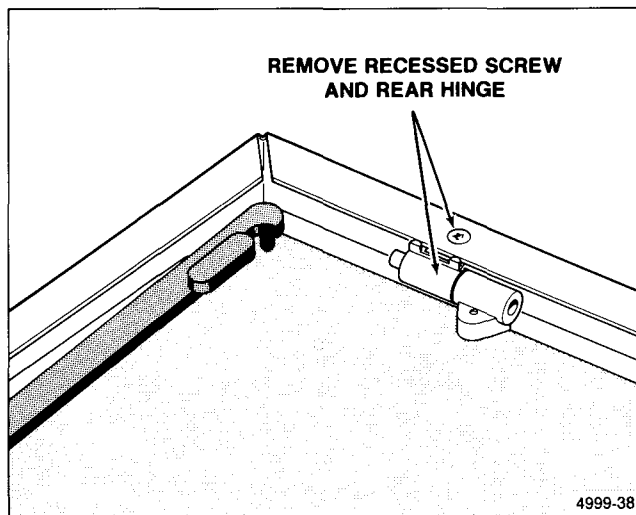

Figure 6-6. Recessed screw and rear hinge removal.
13. Remove both the recessed screw and the chassis mounted rear hinge nearest to the Board Latch from the instrument (see Figure 6-6 for removal of the chassis recessed screw and hinge).